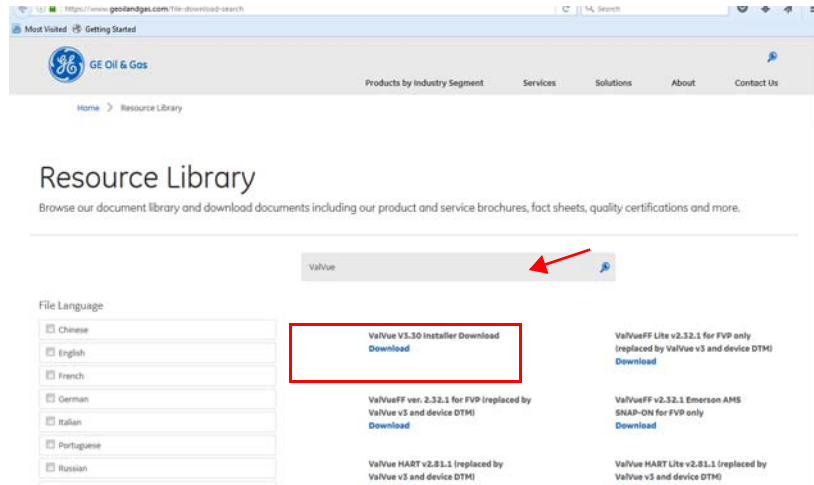

Figure 2 Download Center: Search for Valve3
1. Go to the *Resource Library* (<https://www.geoilandgas.com/file-download-search>) and enter *ValVue* in the search field (arrow in Figure 2).
The results appear (red box in Figure 2).
1. Go to the *Resource Library* (<https://www.geoilandgas.com/file-download-search>) and enter *12400 Level* in the search field (arrow in Figure 2).